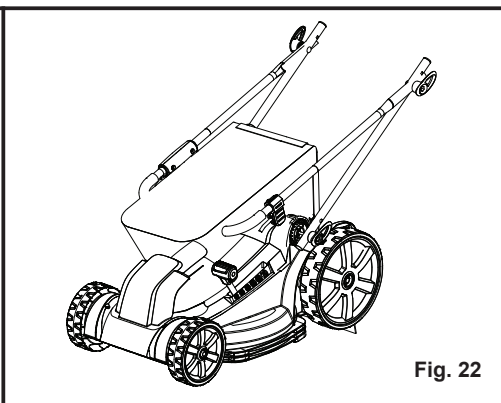

Fig. 22
- To save the space, the grass collection bag can be put on the mower (Fig. 22).